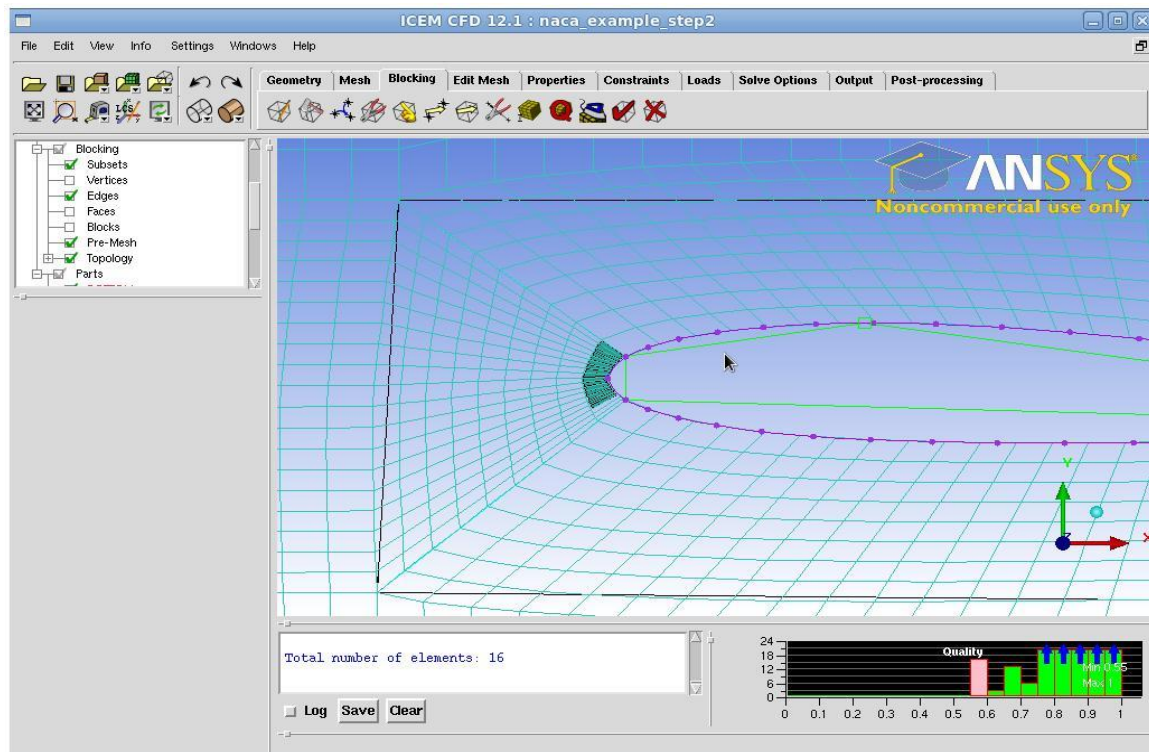

Figure 11: Finding the Lowest Quality Elements
- For our mesh this looks like Figure 11.